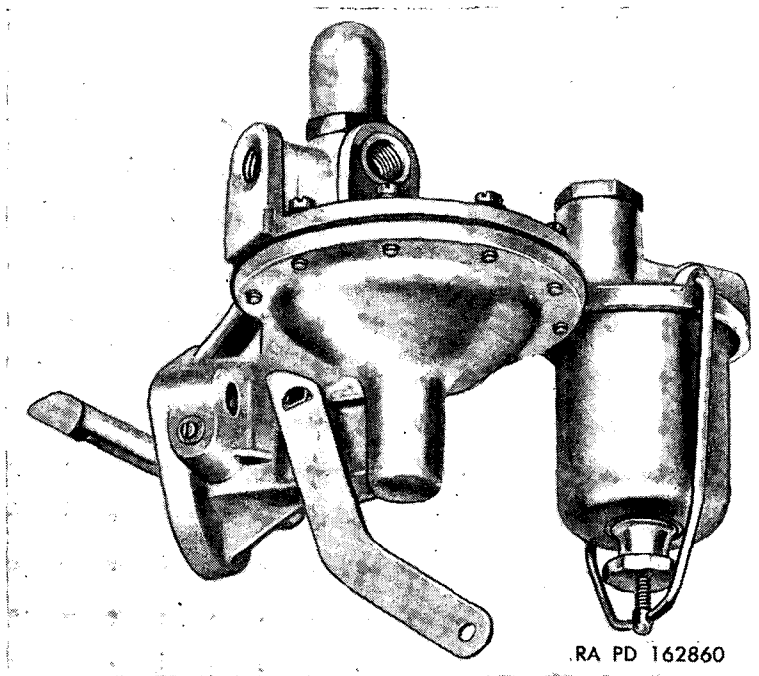

Figure 34. Fuel pump, series AK.
- (1) Mark edges of top cover and body of series AK fuel pump (fig. 34) with a file. Mark at heat shield stud if used. The parts may then be assembled in the same relative positions and heat shield stud properly located.
- (2) Remove cover screws and lock washers. Also remove heat shield stud, if used. Separate cover from body by jarring cover loose with a light plastic hammer.